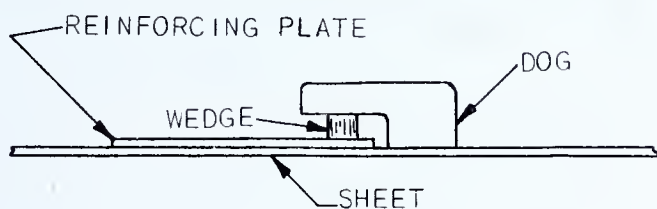

FIG. 573 — Welding Reinforcing Plate
18. Fit reinforcing plate, pc. mk. 87, for access door to forward sheets as shown in Drawing 241-880-1 and Drawing 241-880-2 at detail C. (Fig. 573 shows method of fitting and welding the reinforcing plate.)